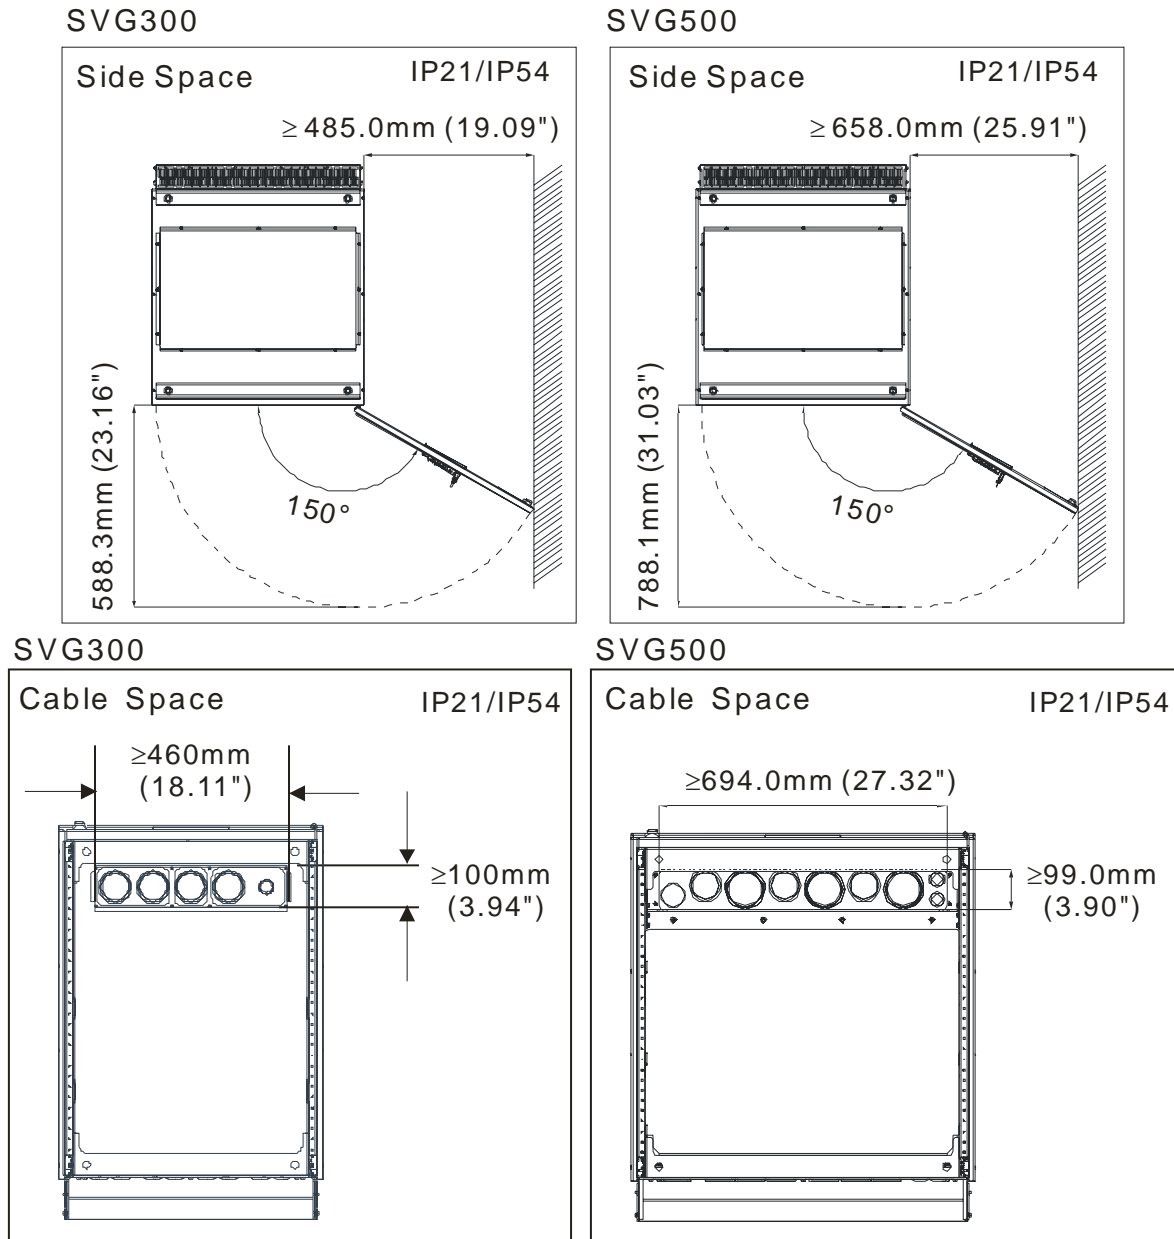
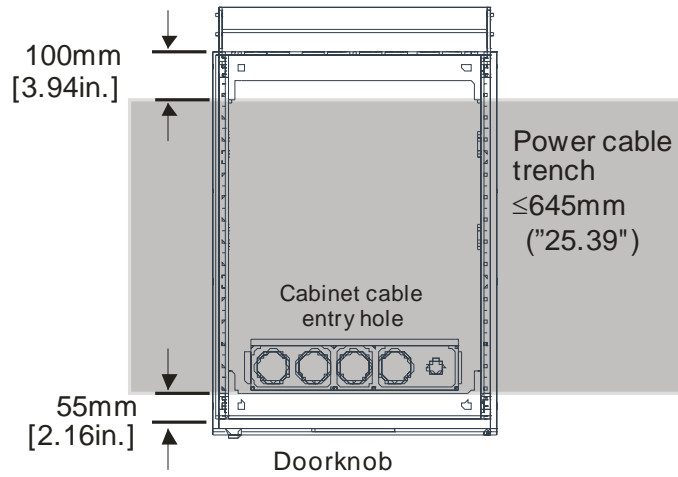

Figure 2-1b
Figure 2-2
4. Cable entry space: When cable trenches are used (as shown in Figure 2-1b), be careful of where the cabinet is being installed. The "Cabinet cable entry hole" must be right above the cable trenches with a distance of no greater than 645 mm (25.39 inches), as shown in Figure 2-2.
- (A) At the location where the cabinet is going to be placed, some spaces must be reserved to support the cabinet. Reserved supporting spaces are shown in figure 2-2, please keep the distances at 55~100mm (2.16~3.94 inches), to ensure the cabinet is installed securely. Note: Must be placed on level ground.